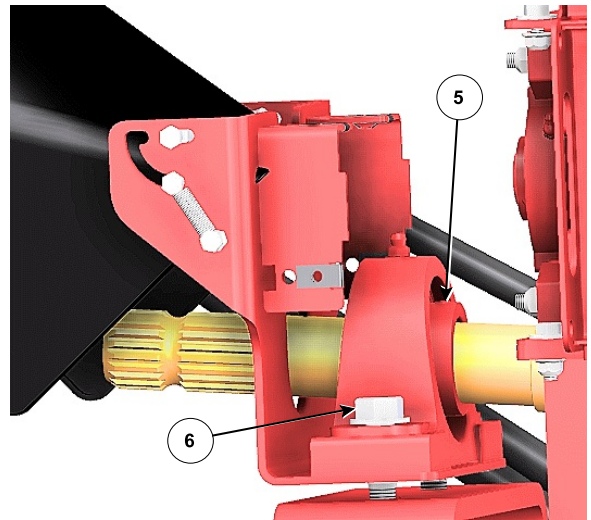

Figure 3: Release the Bearing Lock Collar 224291C
4. Release the bearing lock collar (5) on the driveline, see *Figure 3*.
5. Remove the fasteners (6) holding the bearing to the mount plate, see *Figure 3*.